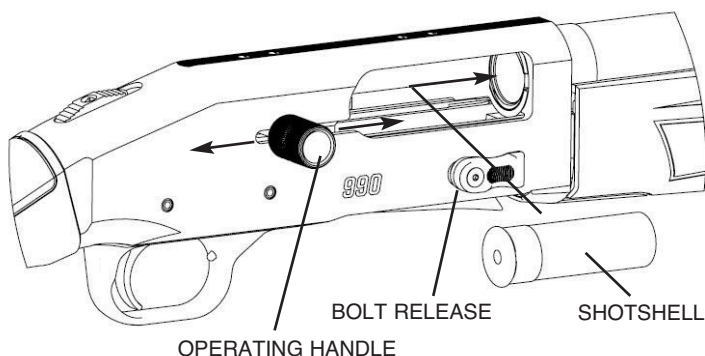

Figure 5
2. Load the first shotshell through the ejection port located on the right side of the receiver. The shotshell can be inserted directly into the chamber or placed on top of the elevator (Figure 5).
3. With the safety button fully rearward in the "ON" (SAFE) position, and the muzzle pointed in a safe direction, press the bolt release until the action releases (Figure 5).
1. Holding the operating handle, press the bolt release (Figure 5) and slowly release the bolt manually.